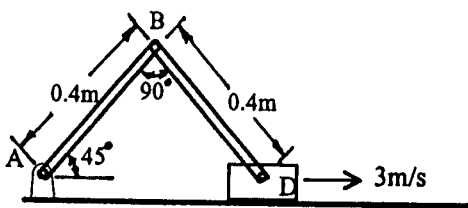

Figure 7.
7. Block D in Figure 7 moves with a speed 3 m/sec. Determine the angular velocity of its link BD and AB, and the velocity of point B at the instant shown on figure.